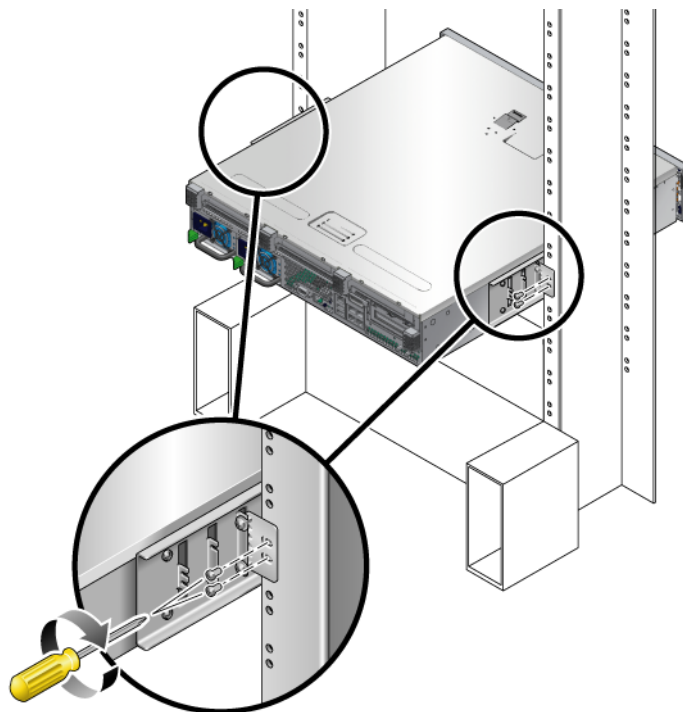

FIGURE 4-13 Securing the Rear Plate to the Rack
- d. Using two screws, secure the other side of the rear plate to the back of the post (FIGURE 4-13).